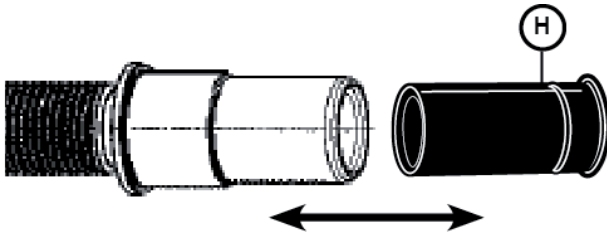

Figure 14
2. Obtain the Rubber Drain Hose Adaptor (H) spring clamp from the Dishwasher Installation Kit (do not substitute).
3. Insert the drain hose adaptor into the end of the drain hose (see **Figure 14**). Be sure to fully insert the drain hose adaptor.